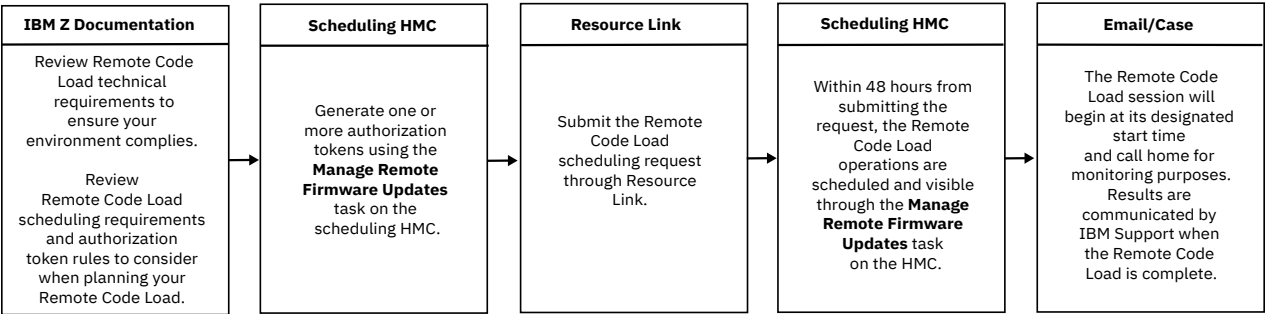

Figure 1. Remote Code Load firmware update process flow
The Driver 41 (Version 2.15.0) and above Hardware Management Console (HMC), Hardware Management Appliance (HMA), and Support Element (SE) support the Remote Code Load (RCL) for IBM Z Firmware feature. This feature allows an authorized user to remotely schedule and install the most recent firmware updates (Machine Change Levels (MCLs)). This secure firmware update operation calls home with live progress updates that are remotely monitored by IBM support. See Figure 1 on page 1 for the process flow of a typical, successful Remote Code Load firmware update.